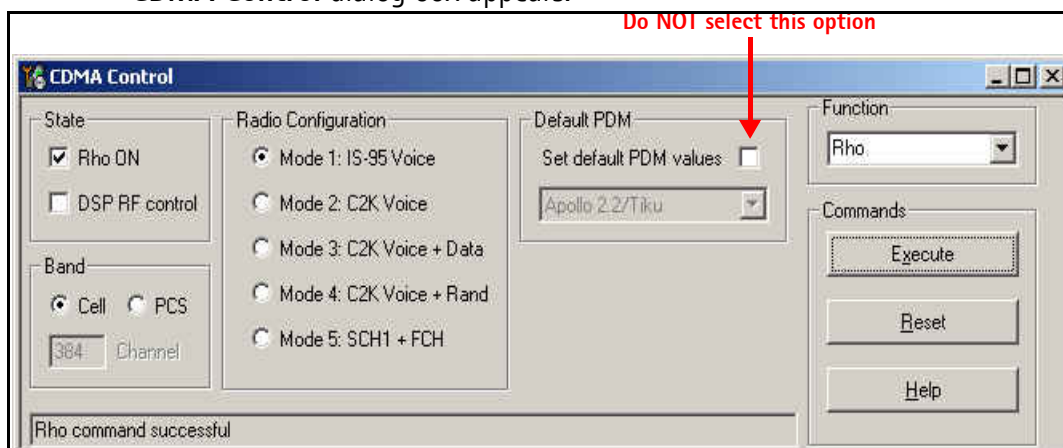

Figure 9: CDMA Control dialog box for Cell Tx troubleshooting
9. Open the **Troubleshooting** menu, point to **RF**, and click **CDMA Control**. The **CDMA Control** dialog box appears. (See Figure 9 on page 14.)